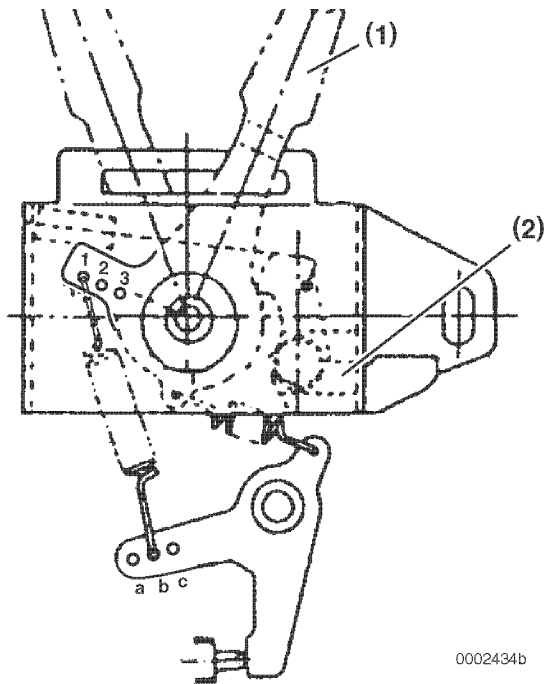

Figure 5-10
3. On constant speed engines, check that the speed control lever (**Figure 5-10, (1)**) locks into the full speed position when advanced and returns to the stop position when the stop lever (**Figure 5-10, (2)**) is actuated.